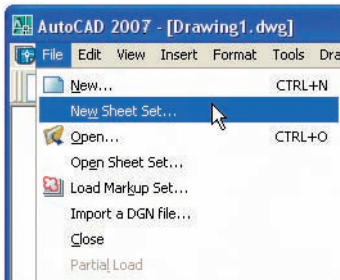
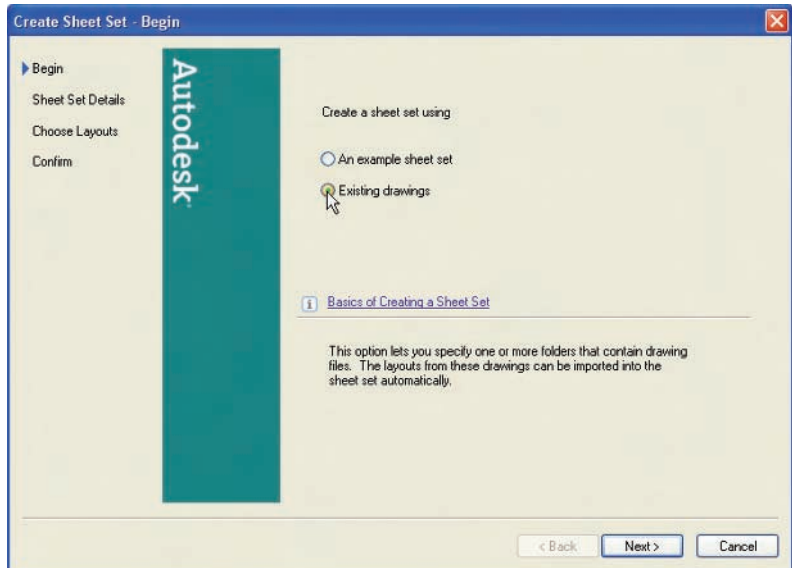

Fig. 11.3 Selecting **New Sheet Set...** from the **File** drop-down menu
Fig. 11.4 The first of the **Create Sheet Set** dialogs – **Begin**
- Click **New Sheet Set** in the **File** drop-down menu (Fig. 11.3). The first of a series of **Create Sheet Set** dialogs appears – the **Begin** dialog (Fig. 11.4). Click the radio button next to **Existing drawings**, followed